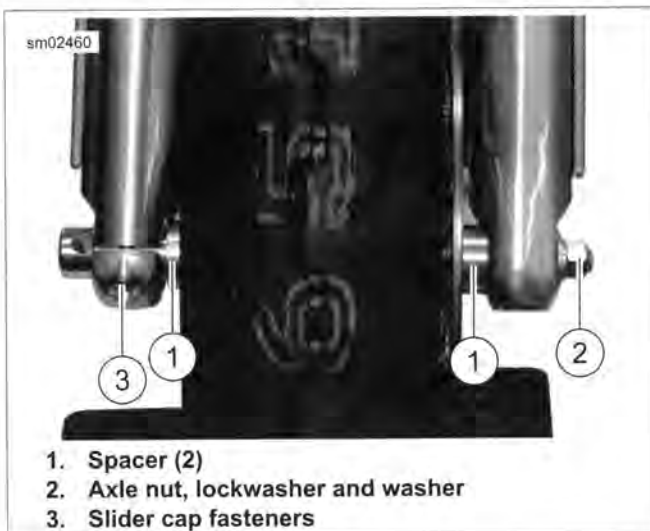

Figure 2-10. Front Axle Assembly
- See Figure 2-10. Place wheel into front fork. Install axle. Verify that axle spacers (1) on right and left side are properly installed.